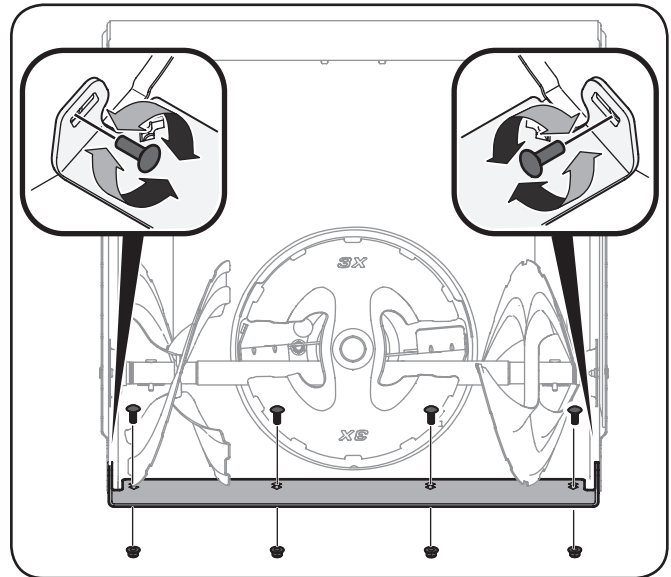

Figure 6-2
2. Reassemble new shave plate, making sure heads of carriage bolts are to the inside of housing. Tighten securely. See Figure 6-2.